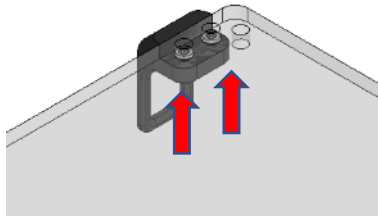

Figure 156: Disassembling the shelf (3/3)
- Disassemble the cleat by unscrewing the 2 screws (See Figure 156)